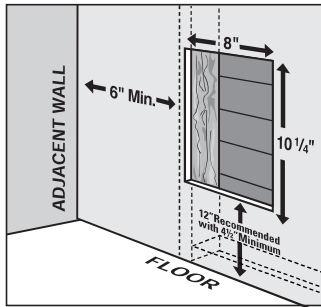

Figure 4
**REQUIRED MINIMUM** distance of 6 inches from adjacent surfaces and 4½ inches from the floor (See Figures 4 and 5). However, Cadet recommends 12 inches from adjacent surfaces and floor for longer and cleaner performance. Heaters must be spaced at least 3 feet apart.